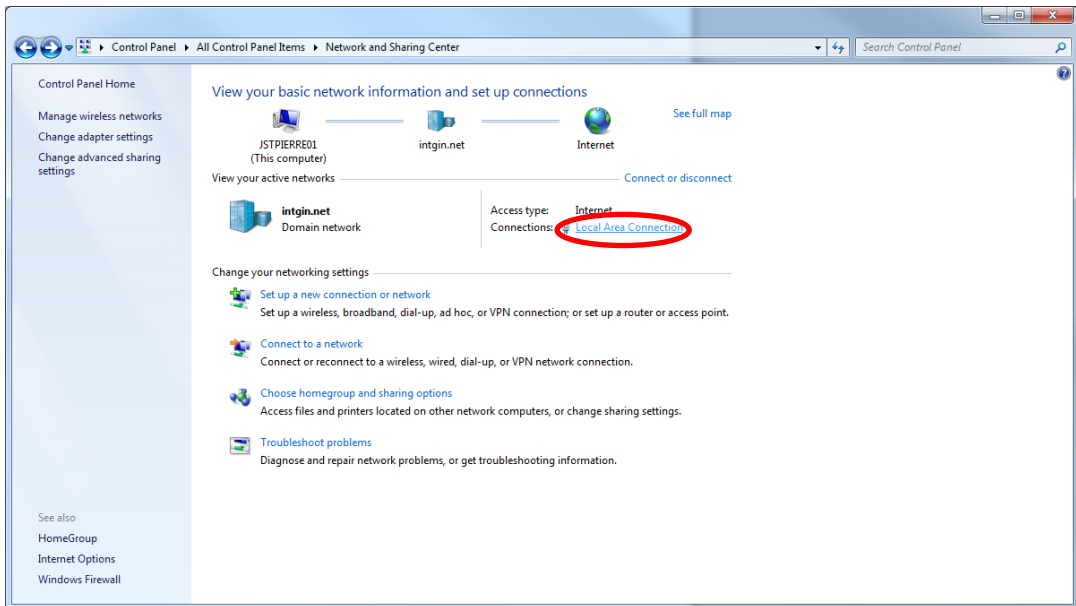

Figure 1. Local area connection link
3. Select the Local Area Connection link as shown in Figure 1.